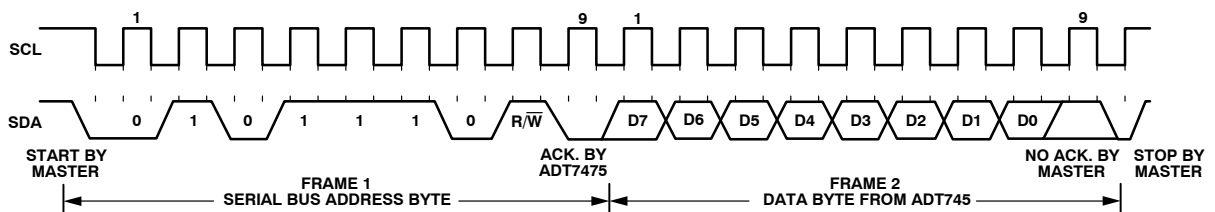

Figure 15. Reading Data from a Previously Selected Register
A read operation is then performed consisting of the serial bus address; the R/\bar{W} bit set to 1, followed by the data byte read from the data register see Figure 15.
- If the address pointer register is known to be already at the desired address, data can be read from the corresponding data register without first writing to the address pointer register see Figure 15.